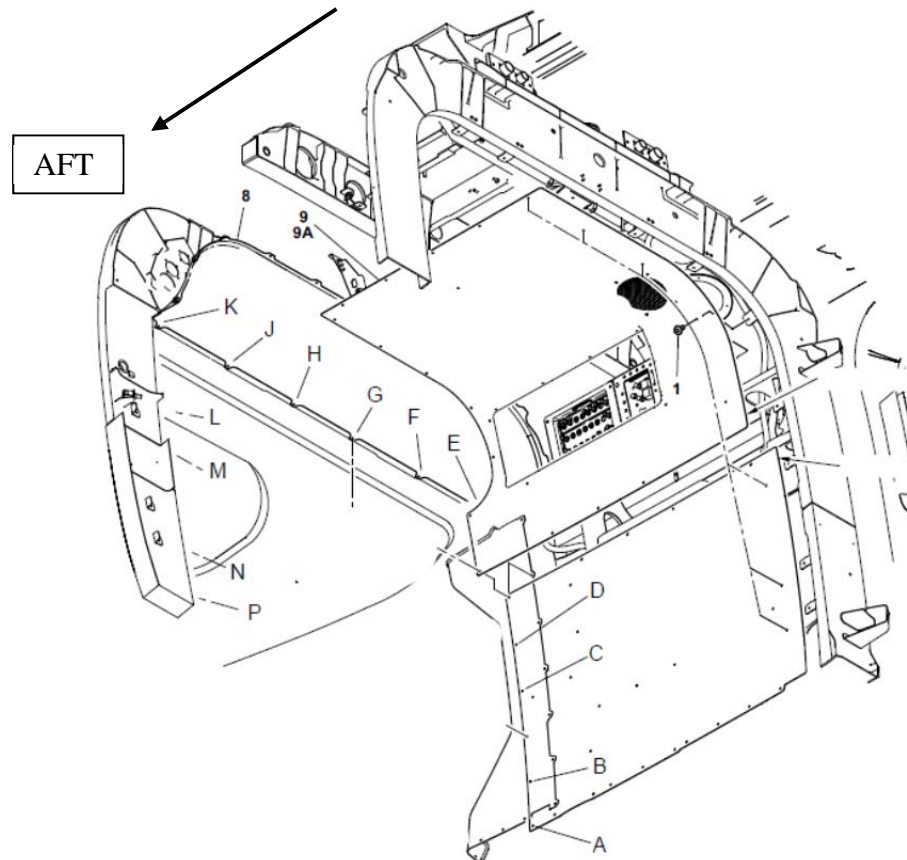

Figure 7.3.1
- 7.3 The finished installation bracket orientations, part markings and installation location references are shown below for an overall preview. The installer should familiarize him / herself with these prior to starting work. Note locations 'A' through 'P' shown in Figure 7.3.1 below.